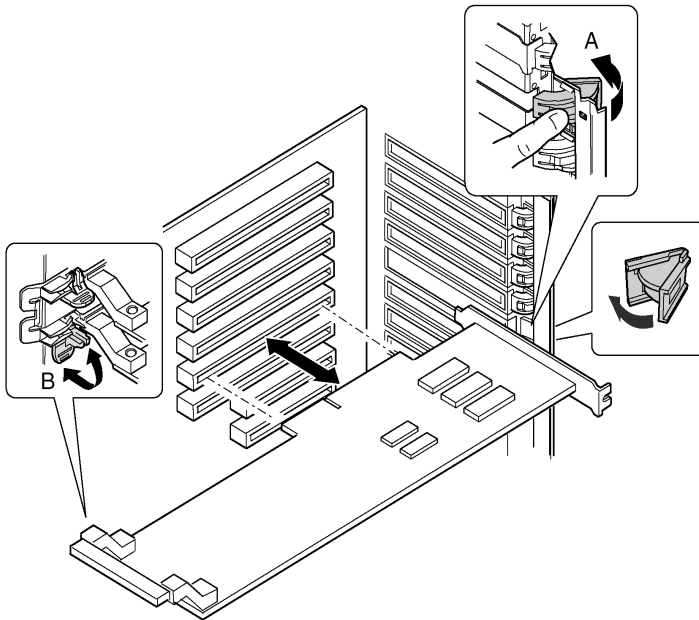

Figure 36 - Installing and removing a non-hot-plug PCI add-in board
- 6 Open the latches on the front and rear retention mechanisms (Figure 36, A and B).